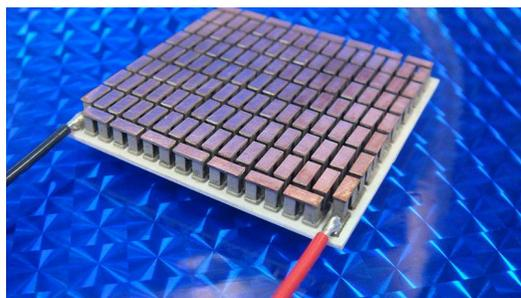

Figure 1 – A 254 Element TE Module
A thermoelectric (TE) generator is constructed by connecting multiple n-type and p-type thermoelements in electrical series with all elements in thermal parallel between a heat source and a heat sink. A scaffolding is often used on the top and the bottom of a device to lend mechanical support to the thermoelements. Figure 1 depicts a commercially available device with the top scaffolding removed.